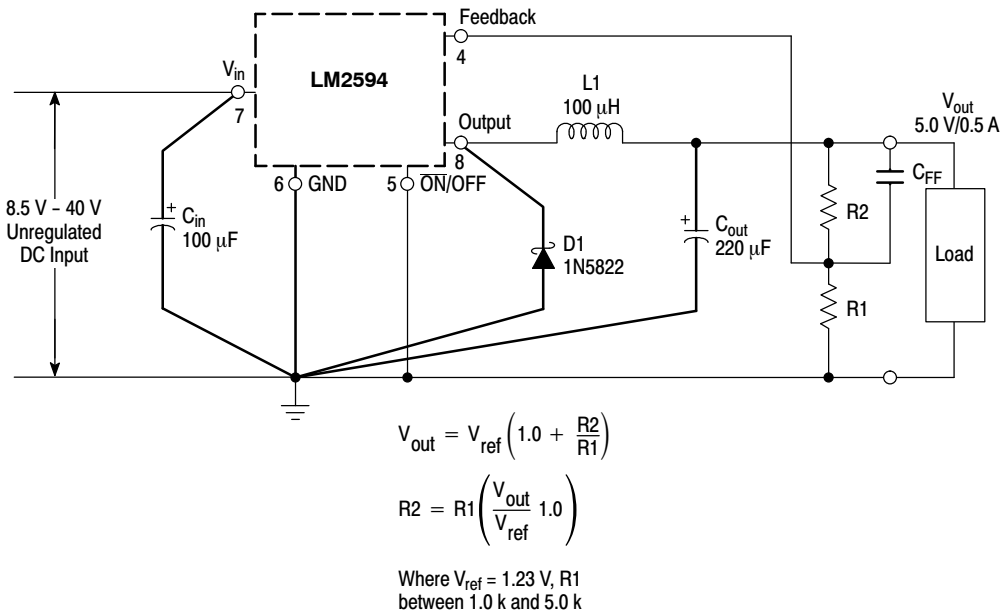

Figure 16. Typical Test Circuit
LM2594 (Note 1, Test Circuit Figure 16)
1. External components such as the catch diode, inductor, input and output capacitors can affect switching regulator system performance. When the LM2594 is used as shown in the Figure 16 test circuit, system performance will be as shown in system parameters section.
## TYPICAL PERFORMANCE CHARACTERISTICS (Circuit of Figure 16)
查询"LM2594-D"供应商 **TYPICAL PERFORMANCE CHARACTERISTICS** (Circuit of Figure 16)
## 典型性能特性 (Circuit of Figure 16)
As in any switching regulator, the layout of the printed circuit board is very important. Rapidly switching currents associated with wiring inductance, stray capacitance and parasitic inductance of the printed circuit board traces can generate voltage transients which can generate electromagnetic interferences (EMI) and affect the desired operation. As indicated in the Figure 16, to minimize inductance and ground loops, the length of the leads indicated by heavy lines should be kept as short as possible.